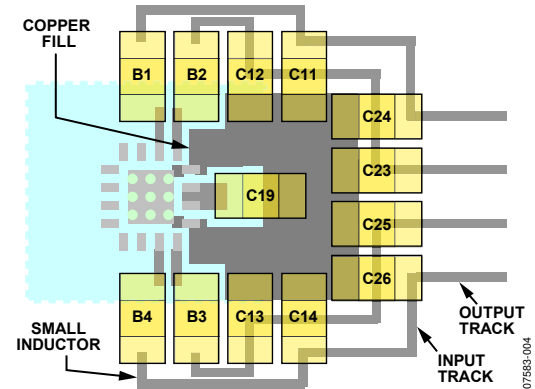
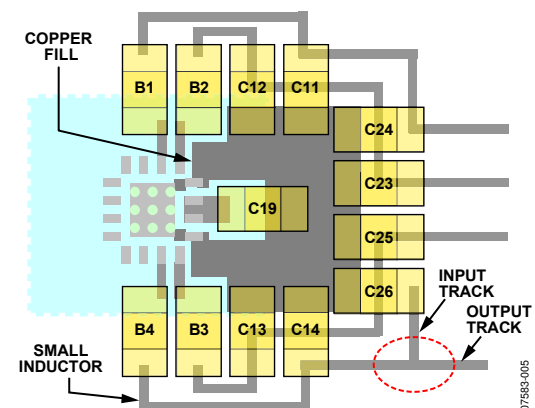

Figure 4. Placement and Routing for the Decoupling Capacitors
Figure 5. Incorrect Routing for the Output Decoupling Capacitor
- Place the decoupling capacitors for the beads, C11, C12, C13, C14, C23, C24, C25, and C26, as close to the amplifier chip as possible, and connect all their ground terminals together as close as possible, as shown in Figure 4. The same principle applies to the decoupling capacitors for the inductors, C15, C16, C17 and C18, if they exist in the application design. Ideally, solder their ground terminals together; do not rely on PCB tracks or ground planes for connecting their ground terminals together.
- Place the decoupling capacitor for the power supply, C19, as close to the amplifier chip as possible as shown in Figure 4, and connect its ground terminal directly to the IC ground pins, Pin 13 and Pin 16.
- The 1 nF capacitor and the ferrite bead can block the EMI for up to 250 MHz. To eliminate EMIs higher than the 250 MHz, place a low value small size capacitor, such as 100 pF 0402 size, in parallel with the decoupling capacitors, C11, C12, C13, and C14. However, place this small capacitor a short distance away, at least 20 mm, from the 1 nF decoupling capacitor. Ideally, the ground terminals of these capacitors are connected to the ground terminals or the PCB traces, which are placed as close to the output loads (loudspeakers) as possible. In this way, the PCB connecting trace between these two capacitors serves as an inductor for filtering out the high frequency component, as shown in Figure 4.
- The incoming and outgoing PCB tracks to the output decoupling capacitors should not be connected to each other. The correct layout is shown in Figure 4. An example of an incorrect layout is shown in Figure 5.